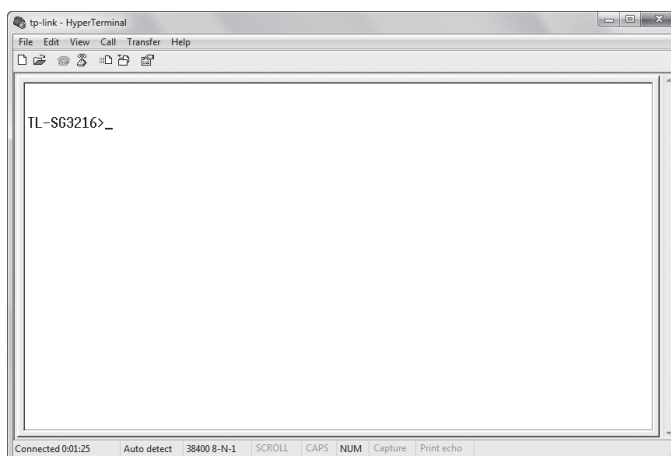

Figure 5-8 Log in the Switch
- The DOS prompt "TL-SG3216>" will appear after pressing the Enter button as Figure 5-8 shown. It indicates that you can use the CLI now.